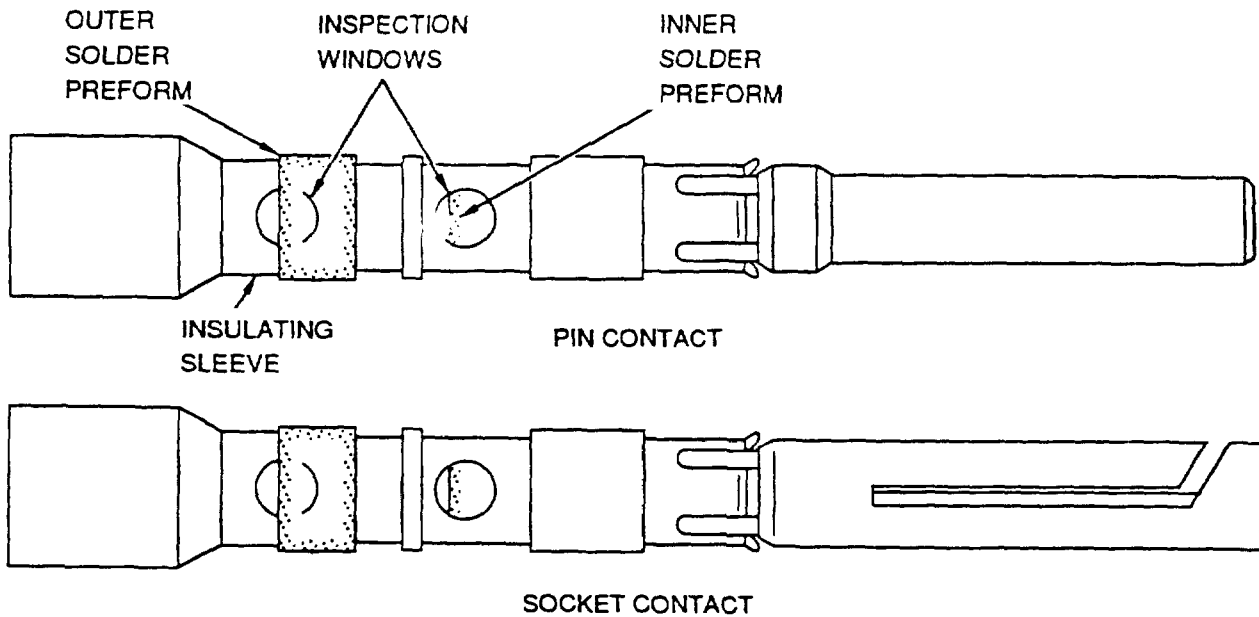

Figure 10 . Typical Coaxial Solder Contact
25. **COAXIAL CABLE WITH AIR/POLYETHYLENE DIELECTRIC SOLDER SLEEVE TERMINATIONS.** Coaxial cable with air/polyethylene dielectric solder sleeve terminations (Figure 10) is used to terminate cables to a wire pair, PC board, connector terminals, or wire-wrap posts. These solder sleeves consist of two separate assemblies. The center conductor termination consists of a dielectric barrier and a heat-shrinkable sleeve containing a fluxed solder preform, a meltable insert, and a pre-installed ground lead. These solder sleeves are used on low temperature cables with a temperature rating of -67°F (-55°C) to +257°F (+125°C).